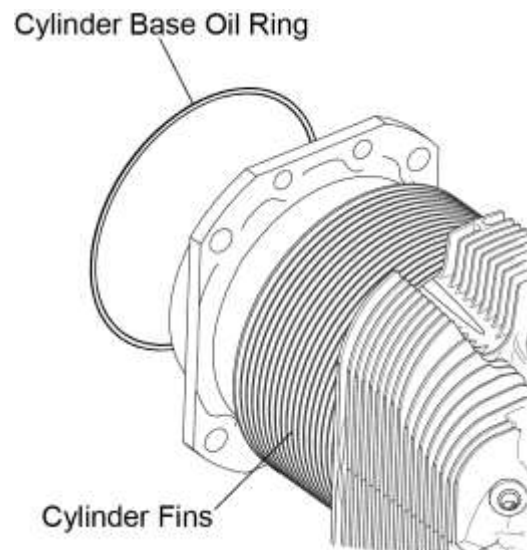

Figure 17
- S. Remove and discard the cylinder base oil ring from the cylinder (Figure 17).